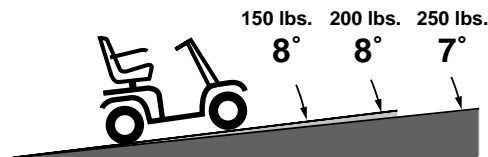

FIGURE 1. MAXIMUM RECOMMENDED INCLINE ANGLE FOR THE REVO SPORT
Other inclines may be natural or, if man-made, not designed specifically for scooters. Figures 1 and 1A illustrate your Revo Sport's stability and its ability to climb grades under various weight loads and under controlled testing conditions.
**WARNING! Any attempt to climb or descend slopes steeper than those shown in figures 1 and 1A may put your Revo Sport in an unstable position and cause it to tip, resulting in personal injury.**